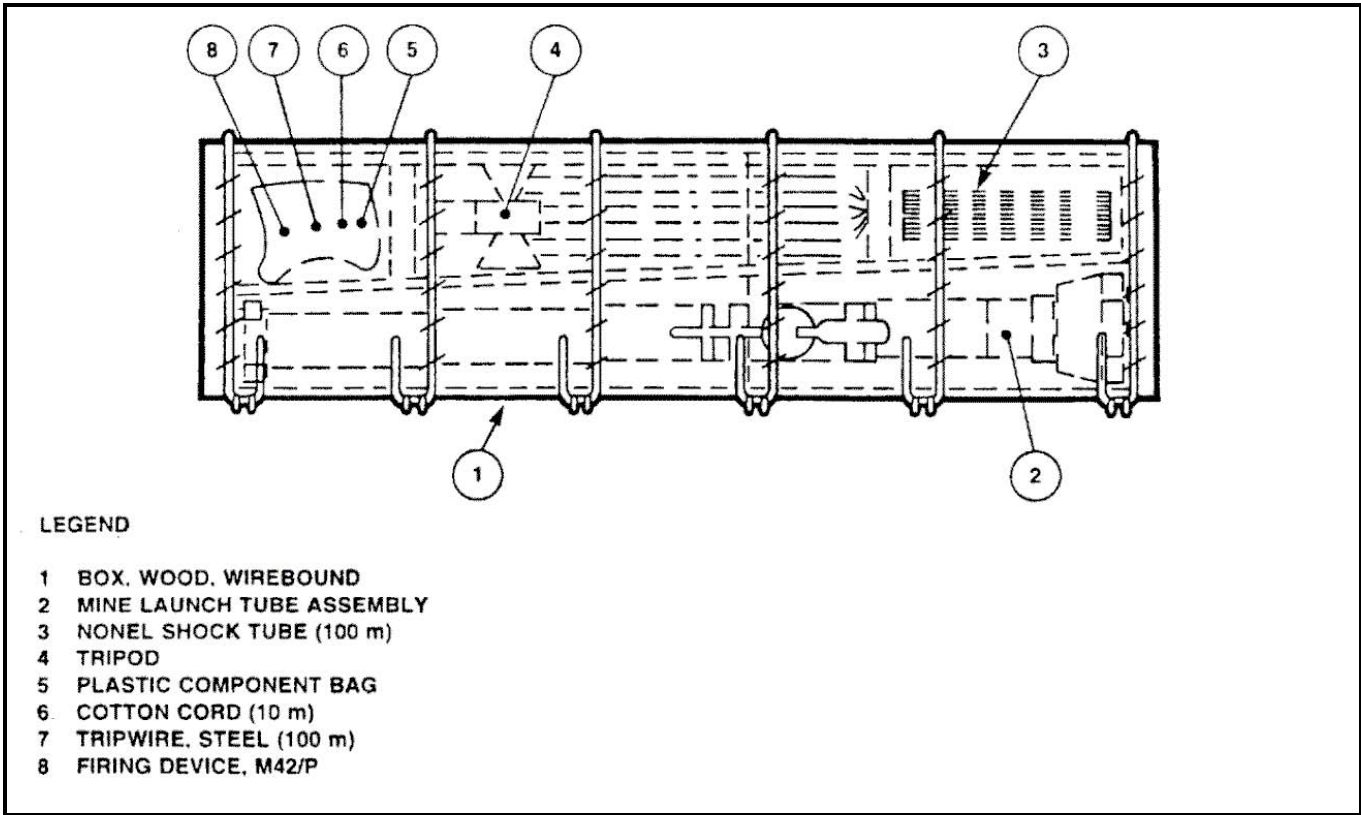

Figure 2 Mine, OFF Route, 84 mm, C14, Packaging Detail
15. The mine assembly is packed in a wirebound wooden box (See Figure 2). Details required for transport and storage will be found in CFTO C-74-300-D01/TA-000, Logistical Data for Ammunition. Outer packaging is marked in accordance with Standard D-09-002-005/SG-000, Minimum Requirements for Packaging and Marking Ammunition.